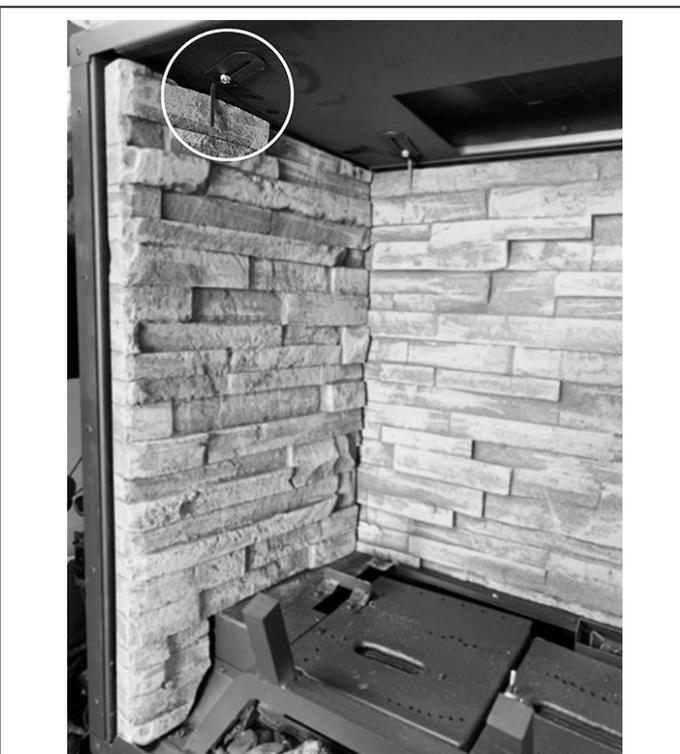

FIGURE 8.4 Side Refractory Panel Installed
2. Install side refractory panels. Secure with (2) panel clips for each side with provided screws. See FIGURE 8.4.